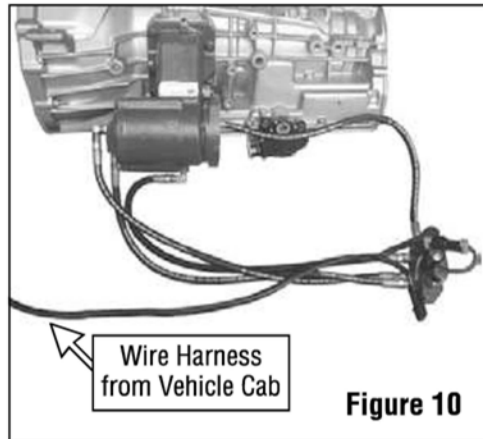

Figure 10
- 27a.** Route the wiring harness from the vehicle front passenger compartment to the solenoid valve. *Figure 10*